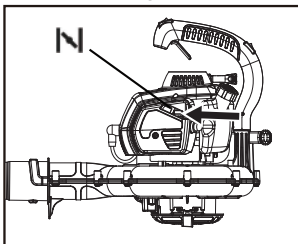
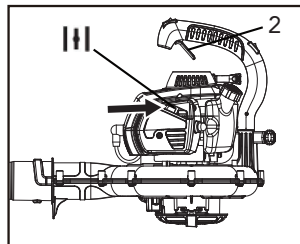

Fig. 8
Fig. 9
3. To start a cold engine, move the choke lever (8) to the position **N** (Fig.8). In order to restart a warm engine, leave the choke lever (8) in the run position **III** (Fig.9) .
4. Slowly pull the recoil starter handle (3) until you feel it engage and then pull it quickly. Return the recoil starter handle (3) gently and slowly to the original position by hand. Repeat until the engine attempts to start but no more than 3-4 times. If the engine has already started within 4 times, skip step 6 below.
5. Turn the choke lever(8) to the "RUN" position . (Fig.9)